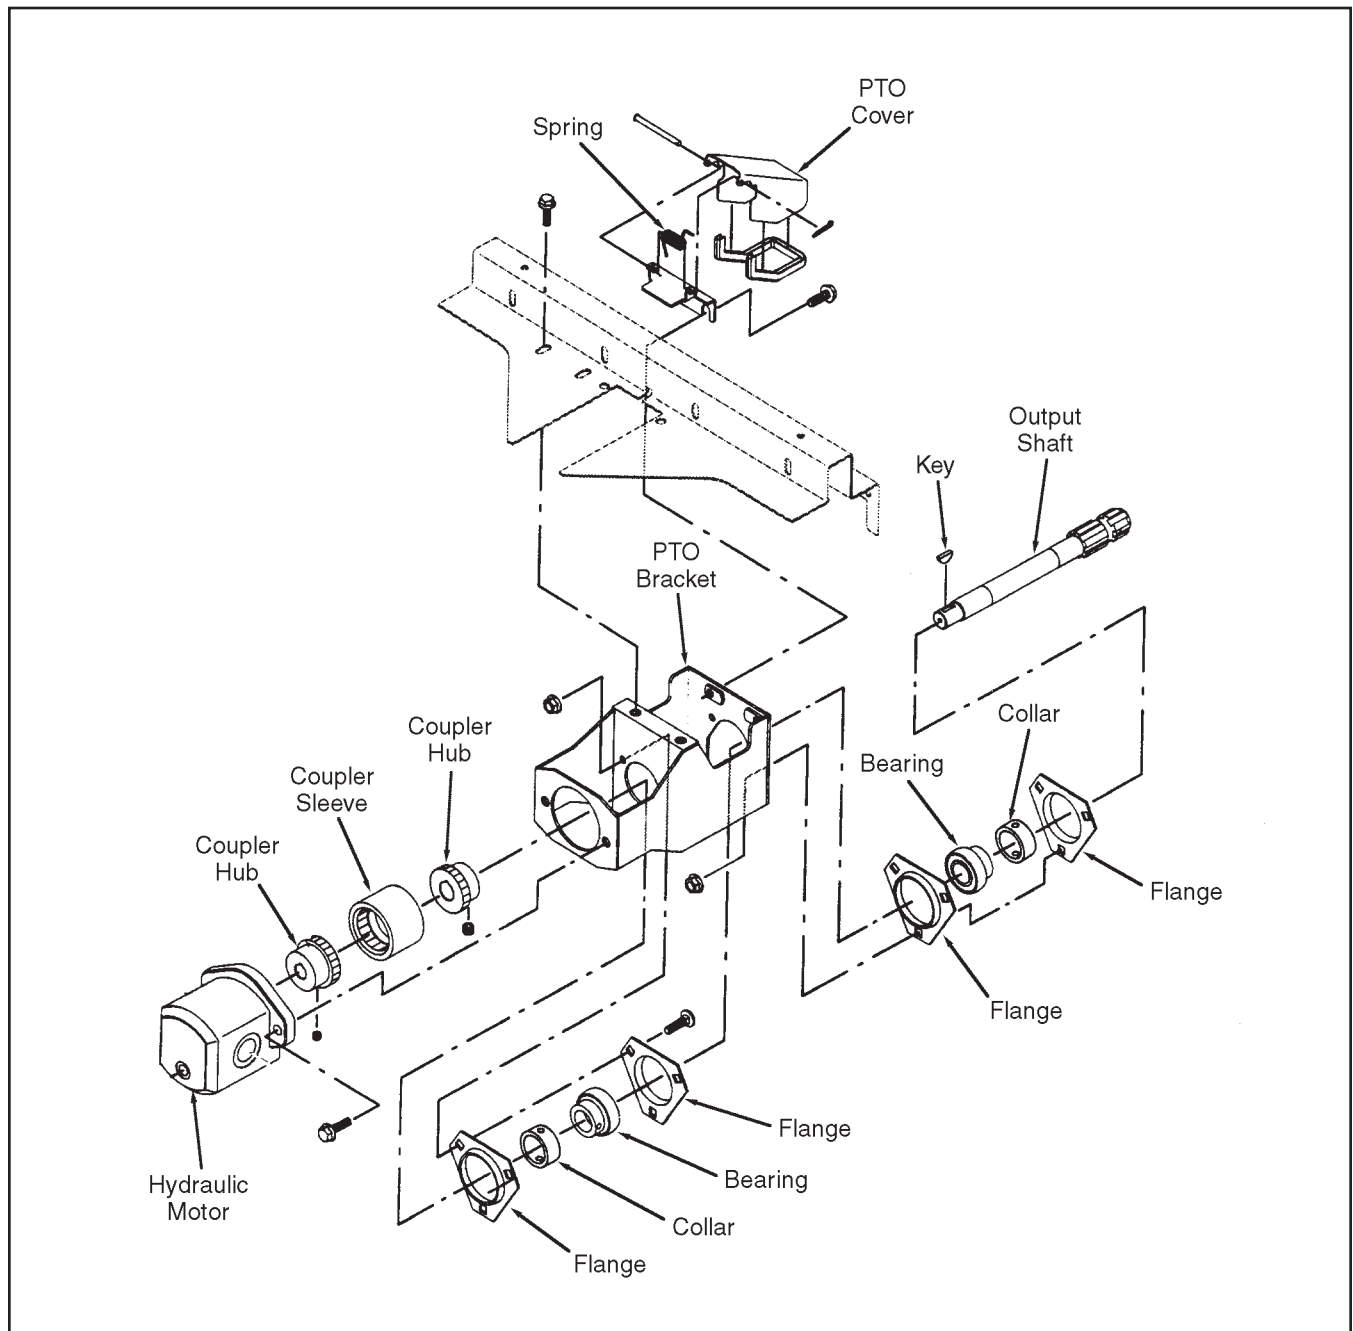

Figure 12D-3. PTO Output Shaft
3. Install output shaft as shown in Figure 12D-3.
HYDRAULIC MOTOR (See Figure 12D-3)
2. Remove the motor as shown in Figure 12D-3.